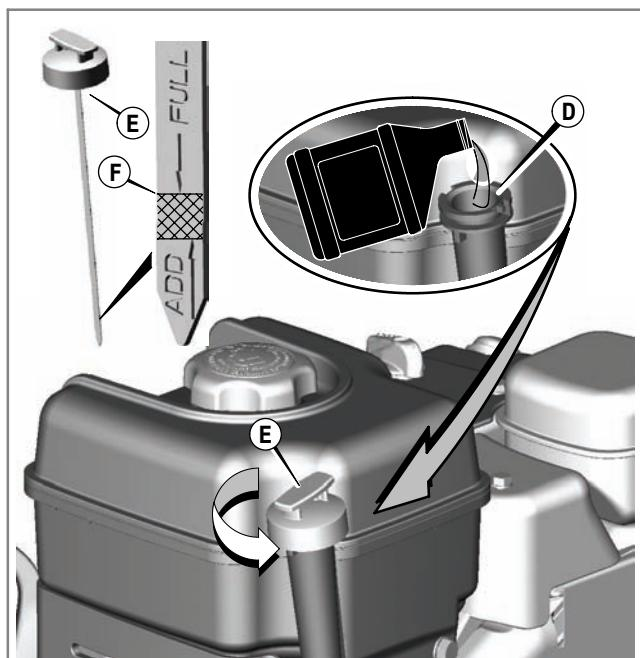

Figure 19
1. Remove the dipstick (**E**, Figure 19) and wipe with a clean cloth.